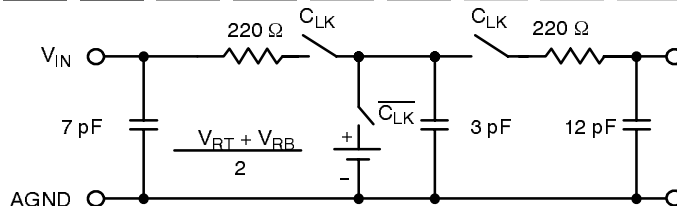

Figure 2. Input Equivalent Circuit
- 5 See V_{IN} input equivalent circuit (Figure 2.). Switched capacitor analog input requires driver with low output resistance.
The ideal ADC is a linear building block that has infinite bandwidth and no phase distortion. A real ADC, however, exhibits finite bandwidth and non-constant group delay characteristics as well as non-linear behavior due to the non-zero INL characteristic. When modeling the ADC as a linear element and a quantizer, the circuit shown in Figure 2. can be used in order to represent the ADC's bandwidth.
1. Driving the analog input – The input impedance can be represented as a switched capacitor type input circuit, i.e. the input impedance changes with the phase of the input clock. Figure 2. shows an equivalent input circuit. In many applications, the input impedance can be treated as capacitive. For fast signals and a high driving impedance, a wide bandwidth op amp is recommended.